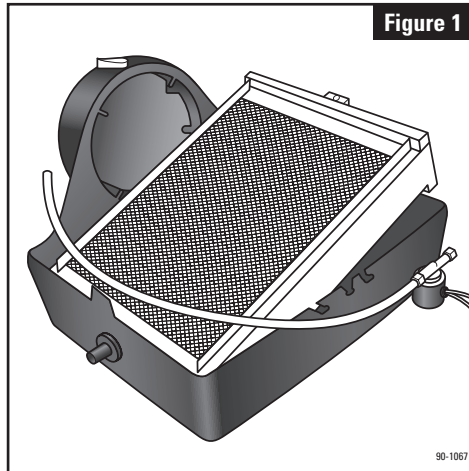
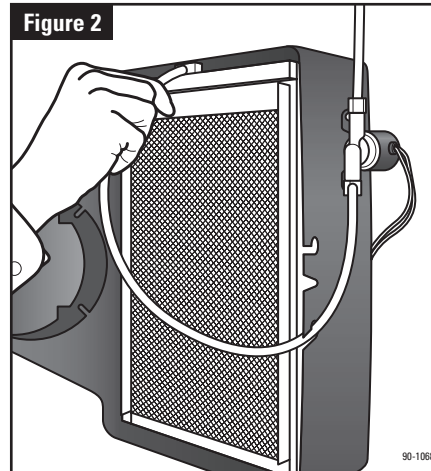

Figure 1
Figure 2
**1.** Remove front cover by pressing center tabs on top and bottom of the cover (1) and base (2). Pull feed tube (3) out of the water distribution tray (4). Tip the evaporative assembly forward and lift it out of the humidifier. (See Figure 1)
**2.** The humidifier comes assembled for left side discharge. If converting to right side discharge, the base can be rotated so round collar is facing to the right. Swap the location of the hole plug (10) and drain spud (9) if using a right side discharge. To remove the cap, push and twist from inside the housing while lifting the cap up slightly on the outside. To remove the drain spud, twist and push from the outside of the base.
**6.** Reinstall the evaporative assembly back into the base, with the bottom of the scale control insert (6) sitting firmly in the inside of the drain spud (9). Push the feed tube back into the
water distribution tray. (See Figure 2) Put the front cover back on. If the nameplate (11) is upside down, remove it and rotate the nameplate so it is right side up, and snap back into place. Turn damper handle (8) to the open position "WINTER" for the heating season, or closed position "SUMMER" for the cooling season.